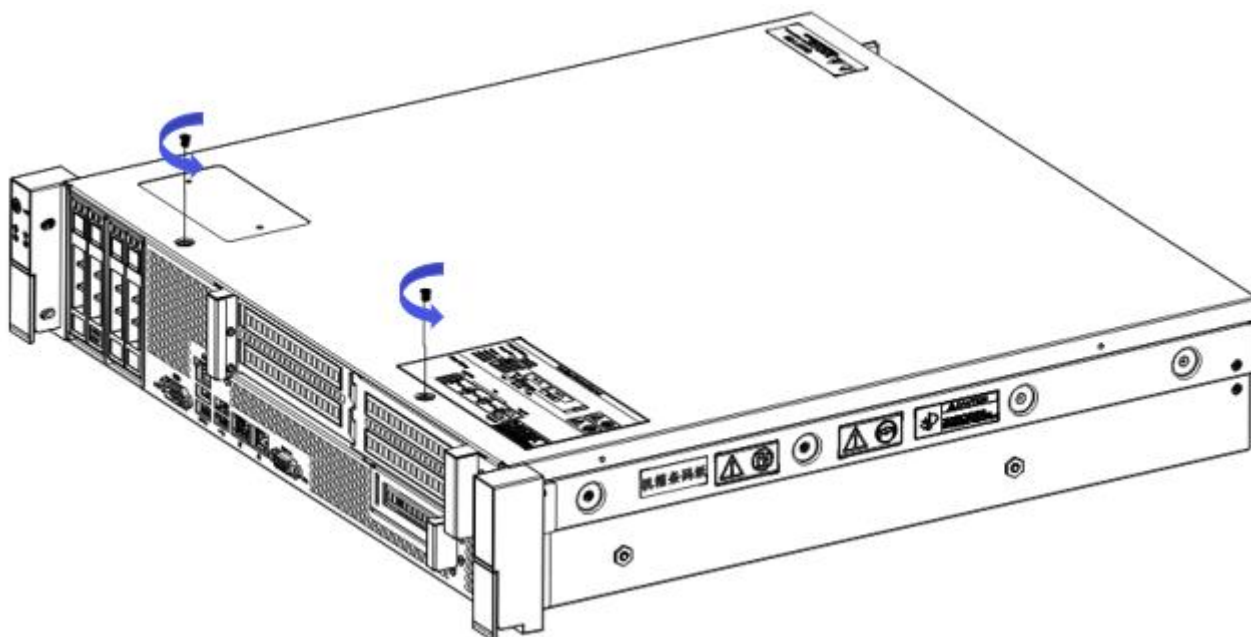

Figure 4.1
- ①First, unscrew the upper screws of the upper cover, as shown in Figure 4.1 below: